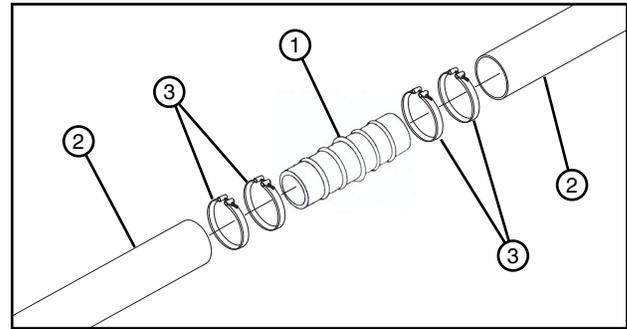

Figure 97-1 1. Rigid Mender
1. Place the rigid mender between the two sections of hose. See Figure 97-1.
2. Insert the mender halfway into the first hose section. See Figure 97-1.
3. Slide the other hose section into the mender. See Figure 97-1.
4. Secure both hoses onto rigid mender with band clamps. See Figure 97-1.